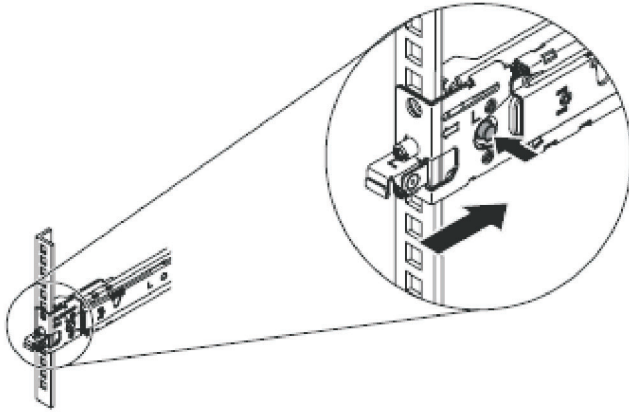

Figure 50. Installing the front end of the slide rails
5. Install the front end of the slide rails, as shown in Figure 50 on page 72.